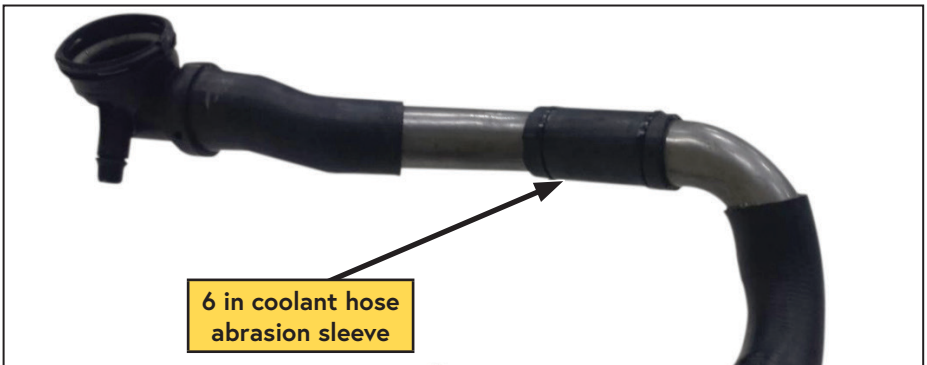

Figure 5 — Engine side anti-abrasion sleeve
- ☐ Wrap the 6 in section around the straight section of the driver side coolant tube and secure with cable ties (Figure 5).